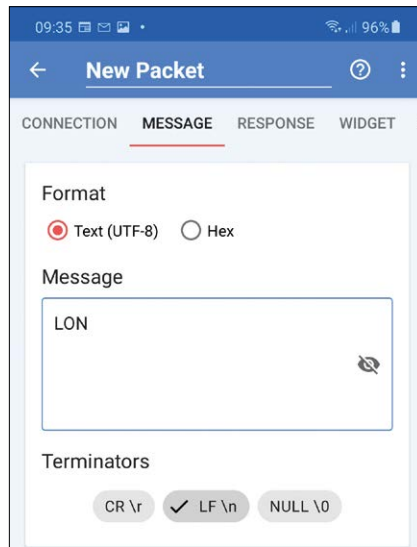

Figure 10.9: Command to turn ON the LED.
- Click the **MESSAGE** menu item and select **Text (UTF-8)** as the **Format**, and enter command **LON** to turn ON the LED. Select **LF\n** as the **Terminator** and click the OK symbol (check symbol), as shown in Figure 10.9.